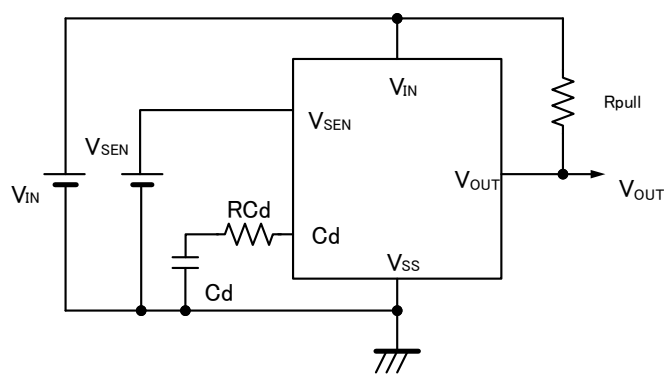

Figure 4: Circuit example with a resistor connected to the Cd pin
- To place a resistance (RCd) of 500Ω to 1kΩ between the Cd and Cd pin. (See Figure 4)